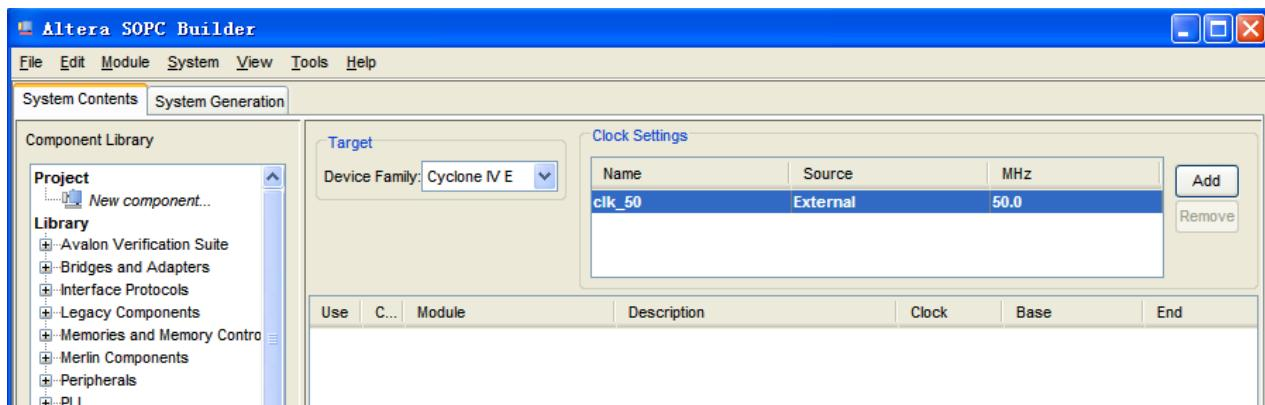

Figure 7-13 Rename Clock Name
7. Click the **clk\_0** name in the Clock Settings table to rename **clk\_0** to **clk\_50**. Press **Enter** to complete the update, as shown in **Figure 7-13**.